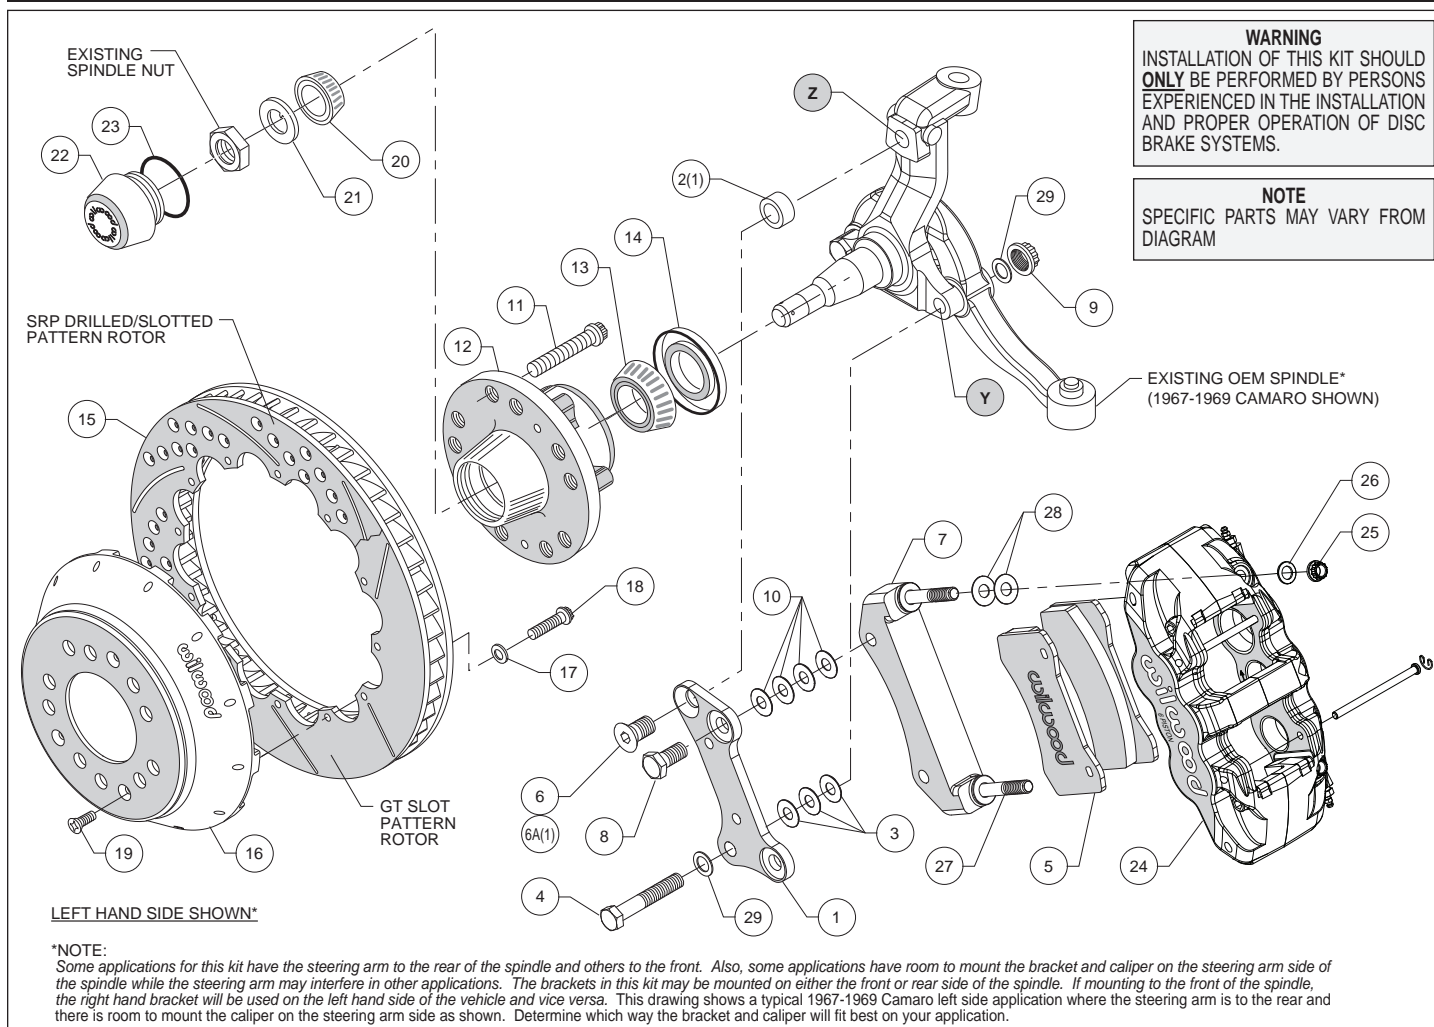
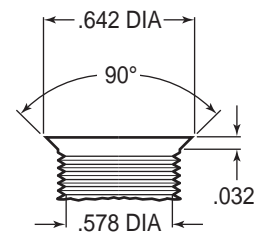
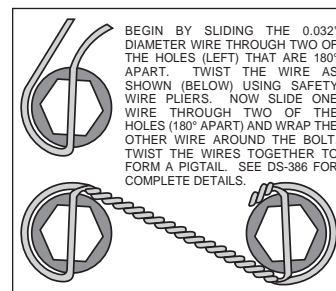

Figure 1. Typical Installation Configuration
Figure 3. Drill and Tap Detail
Figure 4. Safety Wire Diagram
Assembly Instructions (numbers in parenthesis refer to the parts list, and Figure 1 on the preceding pages):
•**NOTE:** Some applications for this kit have the steering arm to the rear of the spindle and others to the front. Also, some applications have room to mount the bracket and caliper on the steering arm side of the spindle while the steering arm may interfere in other applications. The brackets in this kit may be mounted on either the front or rear side of the spindle. If mounting to the front of the spindle, the right hand bracket will be used on the left hand side of the vehicle and vice versa. Figure 1 shows a typical 1967-1969 Camaro left side application where the steering arm is to the rear and there is room to mount the caliper on the steering arm side as shown. Determine which way the bracket and caliper will fit best on your application.
•**NOTE:** Some spindles in this year range may require the following modifications (reference Figure 1 and Figure 3): Top anchor pin hole (Z) must be drilled and tapped to the dimensions as outlined in Figure 3. The lower bolt hole (Y) in the spindle used to mount the new caliper bracket, and the mating steering arm hole, must be enlarged to .50" by drilling. It is recommended these modifications be performed by a qualified machinist.
- Install wheel studs (11) into the hub (12), Figure 1 and Photo 1. Torque to 77 ft-lb. **NOTE:** There are two five lug patterns in the hub (5 x 4.50 and 5 x 4.75). Ensure the correct hub stud pattern is being used to fit the wheel application.
- Pack the large inner bearing cone (13) with high temperature disc brake bearing grease (available from your local auto parts store) and install into the backside of the hub (12), Photo 2.
- Install the grease seal (14) by pressing into the backside of the hub (12), flush with the end of the hub, Photo 2.
- Orient the rotor (15) and the hat (16) as shown in Figure 1 and Photo 3. Attach rotor to hat using bolts (18) and washers (17). Using an alternating sequence, apply red *Loctite*® 271 to the threads, and torque to 155 in-lbs. For an added measure of security, the bolts may be safety wired using standard 0.032 inch diameter stainless steel safety wire as shown in Figure 4. Please refer to Wilwood's data sheet DS-386 (available at www.wilwood.com/Pdf/DataSheets/ds386.pdf) for complete safety wire installation instructions.
•**Disc Brake Spindle Application Only:** Follow the instructions below, but instead use bolt (6A), and spacer (2) in the upper bolt hole location, Figure 1.
•Orient the flat bracket (1) as shown in Figure 1 and Photo 4, and install using bottom bolt (4), washers (29), and nut (9), Figure 1. Initially place three .032" thick shims (3) between the bracket and spindle. Install the upper bolt (6 or 6A), Photo 5. Temporarily tighten bolts. **NOTE:** The bracket must fit squarely against the mounting surfaces on the spindle. Inspect for interference from casting irregularities, machining ridges, burrs, etc. Temporarily install the hub and hat/rotor assembly. Check that the bracket is aligned parallel to the rotor, Photo 6. If not, adjust by adding or subtracting shims (3) on the lower bolt between the bracket and spindle, Figure 1. Once the bracket alignment is correct, remove the upper bolt (6 or 6A), apply red *Loctite*® 271 to the bolt threads, and torque to 120 ft-lb. Torque the lower lock nut to 65 ft-lb.
•The radial mount caliper bracket (7) should initially be installed with clean dry threads on the mounting bolts. Orient bracket as shown in Figure 1, and install using bolts (8). Initially place four shims (10) on each bolt between the two brackets. Temporarily tighten the mounting bolts. Later, after the caliper alignment has been checked, the mount bolts will be secured using red *Loctite*® 271.
•Pack the small outer bearing cone (20) with high temperature disc brake bearing grease and install into hub (12). Final install the hub assembly onto the spindle. Secure using spindle washer (21), and OEM spindle nut, Photo 7. Adjust bearings per OEM specifications. Install new cotter pin (not included).
•Screw dust cap (22) into hub (12), Photo 8. Friction created by the o-ring (23) on the dust cap keeps it from unscrewing. **NOTE:** The O.D. of the existing OEM spindle washer may be larger than the I.D. of the dust cap not allowing it to seat against the hub face. Therefore, use the spindle washer (21) supplied with the kit instead of the OEM washer.
•Final install the hat/rotor (15 and 16) onto the hub (12) taking care to align the small countersunk holes in the hat with the small threaded holes in the hub. **NOTE:** The hat must fit flush against the hub face or excessive rotor run out may result. Install three flat head screws (19) through the small holes in the hat (16), Photo 9, and torque to 85 in-lb.
•**NOTE:** This kit contains distinct right and left hand calipers that must be mounted in a specific direction, as described below. Lubricate the caliper mounting studs (27) with lightweight oil. Initially place two .030" thick shims (28) on each stud between the caliper and the bracket, as shown in Figure 1 and Photo 10. Mount the caliper (24) onto the bracket (8) using lock nuts (25) and washers (26), Figure 1. Ensure that the caliper is mounted so the largest pistons are at the rotor exit end of the caliper, in relation to the direction of rotor rotation. Temporarily tighten the lock nuts and view the rotor through the top opening of the caliper. The rotor should be centered in the caliper, Photo 11. If not, adjust by adding or subtracting shims (10) between the flat bracket (1) and the radial mount bracket (8). Always use the same amount of shims on each
- Remove the two pad retaining pins from the caliper (24) by carefully popping out the pin retaining clips and sliding out the pins. Insert the brake pads (5) into the caliper from the bottom, Figure 1, Photo 12. With the friction material facing the rotor, secure the brake pads in place with the pad retaining pins and clips, Photo 13. Reinstall the caliper onto the caliper mounting bracket and temporarily tighten the lock nuts. Check that the top of the brake pad is flush with the outside diameter of the rotor, Photo 14. If not, adjust by adding or subtracting shims (28) between the caliper and the bracket. After the caliper pad height is set, torque the caliper lock nuts (25) to 47 ft-lb.